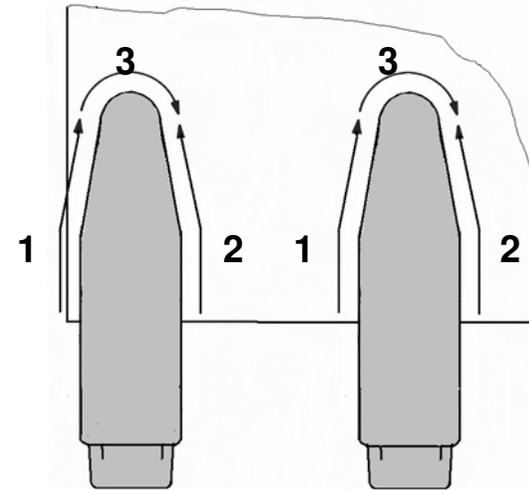

Fig 1
- ❑ Complete all welding on the bottom side of the edge first. Follow welding sequences as shown in fig 1.